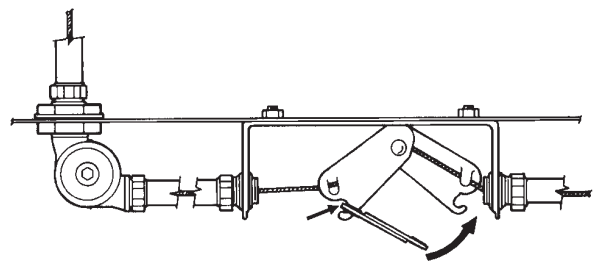

FIGURE 39
- Hook the fusible link on the ANSUL AUTOMAN release side of the hook assembly, then pull the fusible link to the opposite side and complete the hookup as shown in Figures 39 and 40. The top of the hook assembly must be inside the bracket stiffeners. The hook assembly with the ANSUL fusible link in place must be located toward the terminal detector side of the bracket.